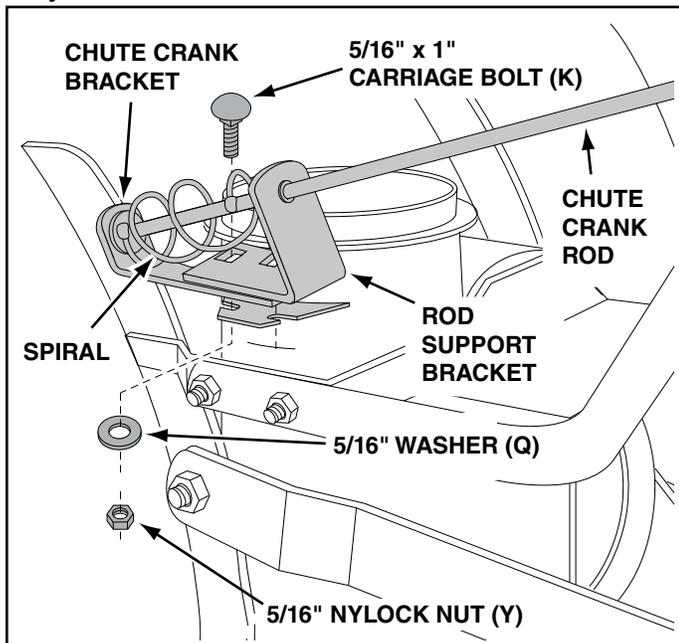

FIGURE 52 **LEFT SIDE VIEW**
STEP 53: (SEE FIGURE 52)
- Attach the chute crank rod assembly brackets to the plastic bracket on the left side of the discharge housing. Align the chute crank bracket beneath the rod support bracket and assemble both to the plastic bracket using two 5/16" x 1" carriage bolts (K), 5/16" washers (Q) and 5/16" nylock nuts (Y). **Do not tighten yet.**